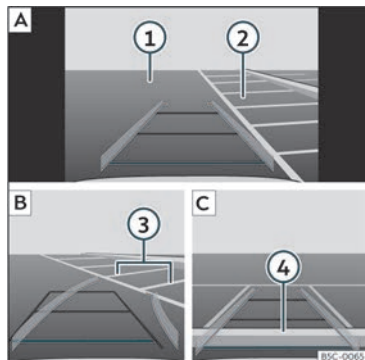

Fig. 183 Display on the Infotainment system screen.: parking with reverse assist.
Key to the **Fig. 183**:
- Place the vehicle in front of the parking space >>> **Fig. 183** .